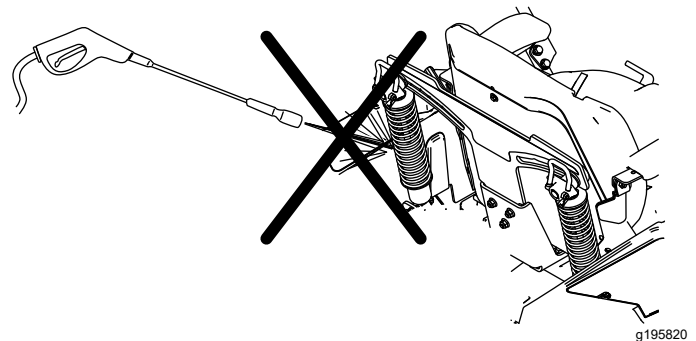

Figure 82
**Note:** Do not clean the shock assemblies with pressurized water (Figure 82).